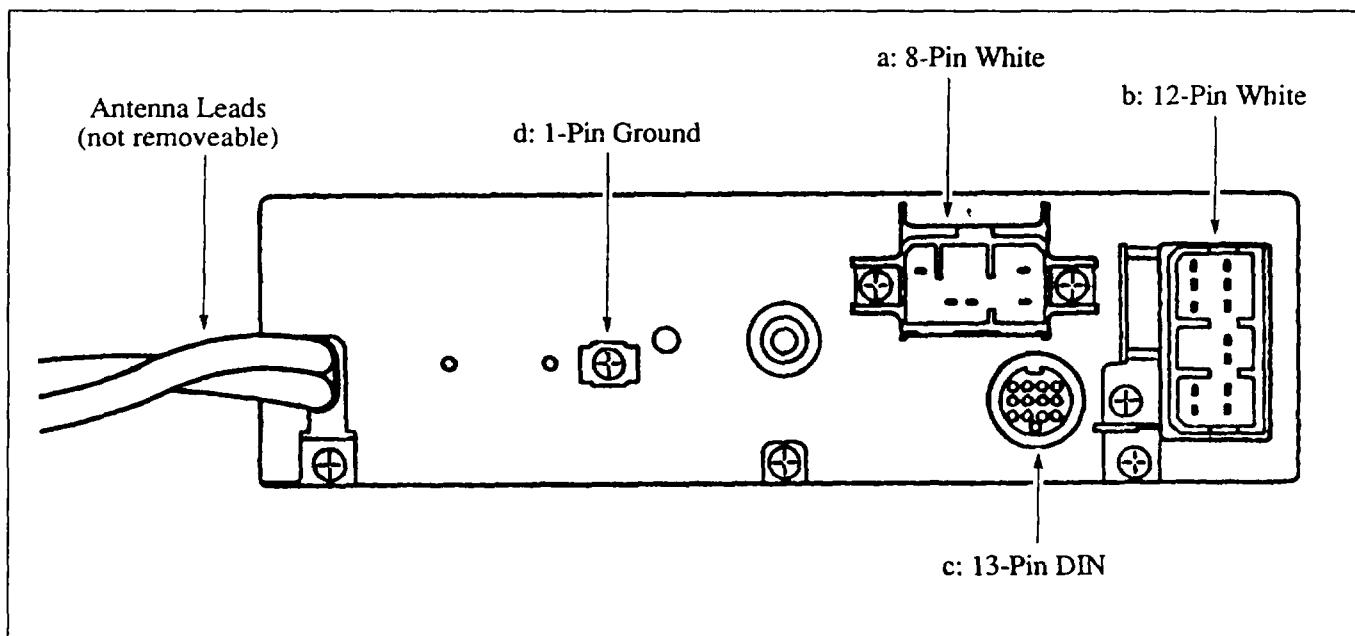

Figure 6: Rear View of Radio
11. The electrical connectors must now be removed from the back of the radio. Since it is not possible to see the connectors, refer to **Figure 6**. Remove the connectors in the order shown below and note the locations of the locking tabs.